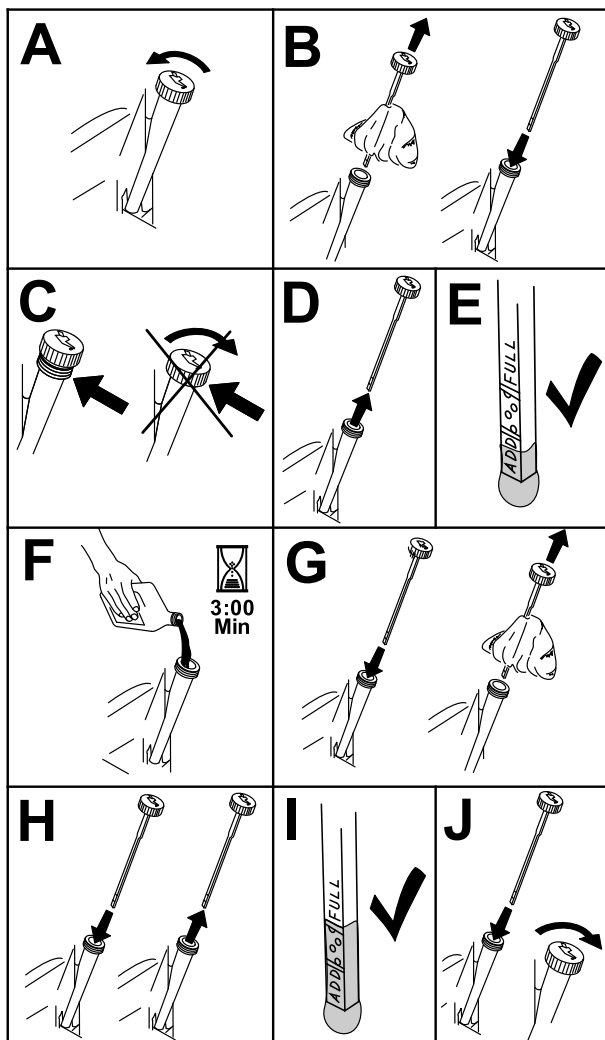

Figure 49
2. Stop the engine, remove the key, and wait for all moving parts to stop before leaving the operating position (Figure 49).